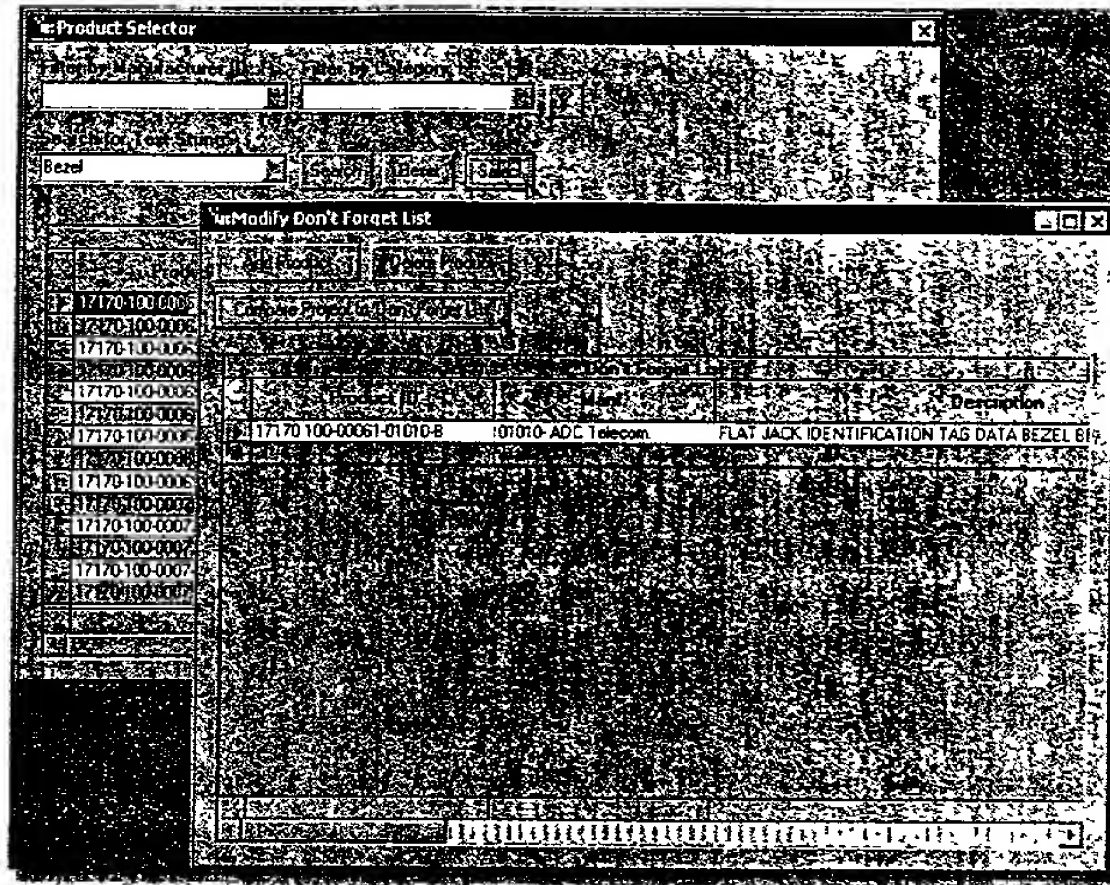

Figure 34 Comparing Project to 'Don't Forget' List
76. Select a bezel of your choice by using the **Select** button (Figure 34)